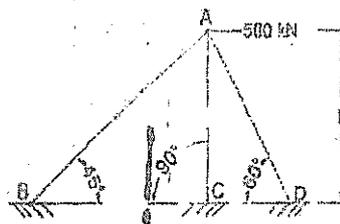

Figure 5
2. Determine the forces in the members using castigliano's energy theorem. The structure is shown in Figure 5. The quantity AE is constant for all the members.